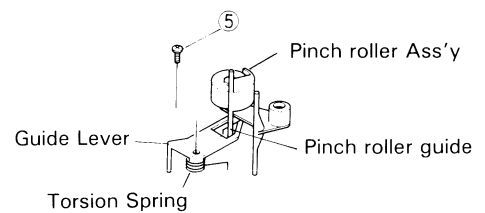

Fig. 10
2. Remove screws ⑤ fixing the guide lever, then remove the guide lever from the pinch roller guide. (Fig. 10)